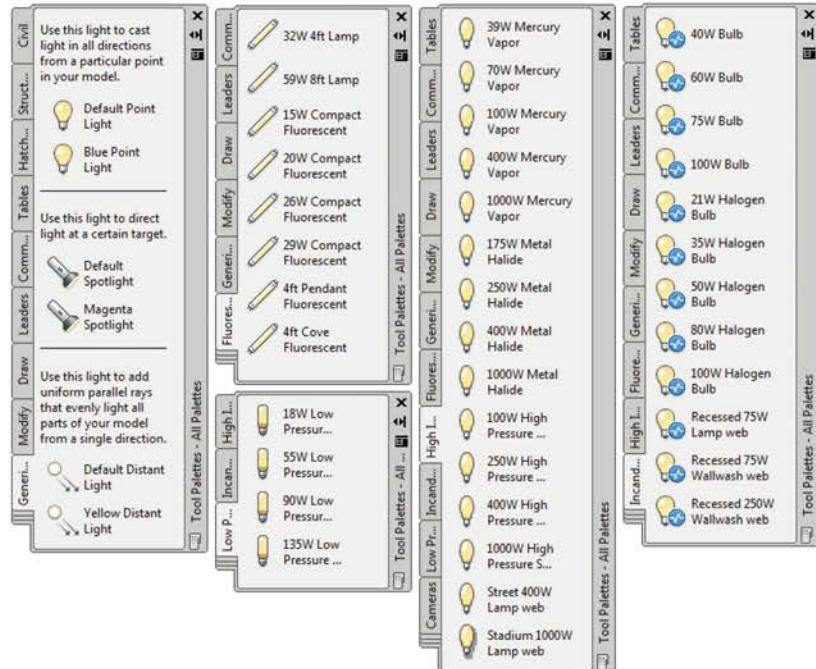

Fig. 16.15 The Lighting tool palettes
A variety of lights of different types in which lights of a selected wattage that can be placed in a lighting scene are available from the Tool Palettes – All Palettes palette. These are shown in Fig. 16.15.
5. There are several methods by which **Distant** lights can be called: by selecting **Default Distant Light** from the **Generic Lights** palette (Fig. 16.15), with a *click* on the **Distant** icon in the **Render/Lights** panel, and by *entering* **distantlight** at the command line.